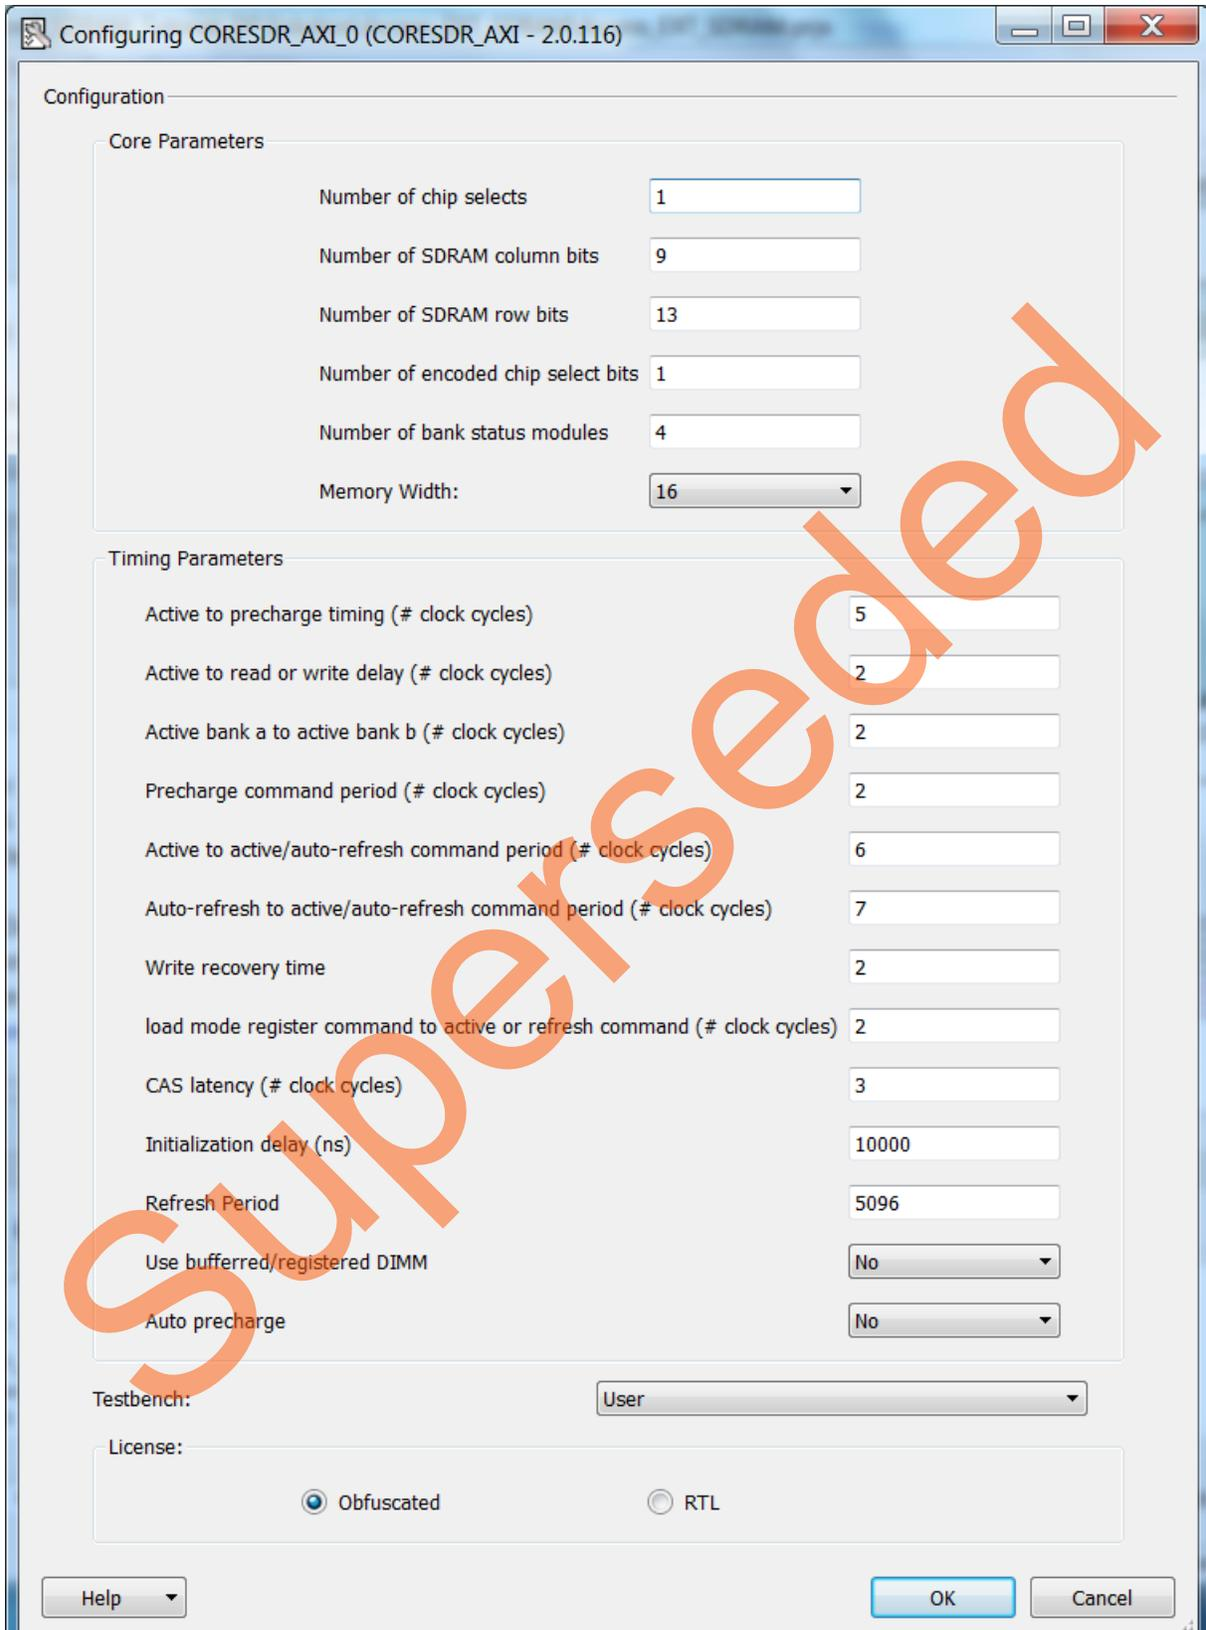

Figure 17. CoreSDR\_AXI Configuration Window
3. Drag the **CoreSDR\_AXI** IP from the **Peripherals** sub-section of the IP **Catalog**. Double-click on the **CORESDR\_AXI\_0** instance to access its configuration window. Enter the details in the configuration window, as shown in Figure 17. These details are filled as per the datasheet of the Micron 256 MB SDRAM simulation model, which is used for functional simulation. The part number of the SDRAM is MT48LC16M16A2. It is a 4 Meg x 16 x 4 banks SDRAM.